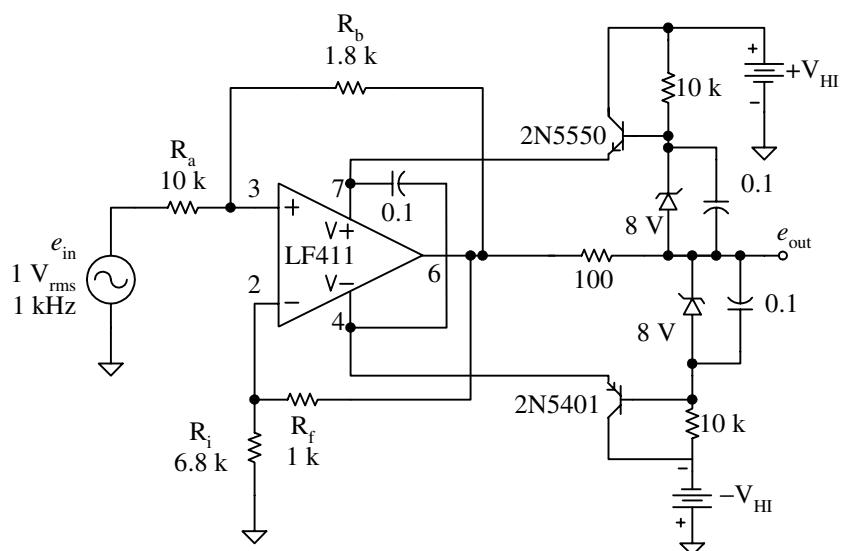

Figure 1-45 Suspended supply amplifier
7. Connect the amplifier to the suspended supply as shown in Figure 1-45. Be sure to remove one of the op amp's decoupling capacitors and connect the other *between* the power supply pins.
12. When you have the circuit from Figure 1-45 working correctly, set $\pm V_{HI}$ to ± 56 V.